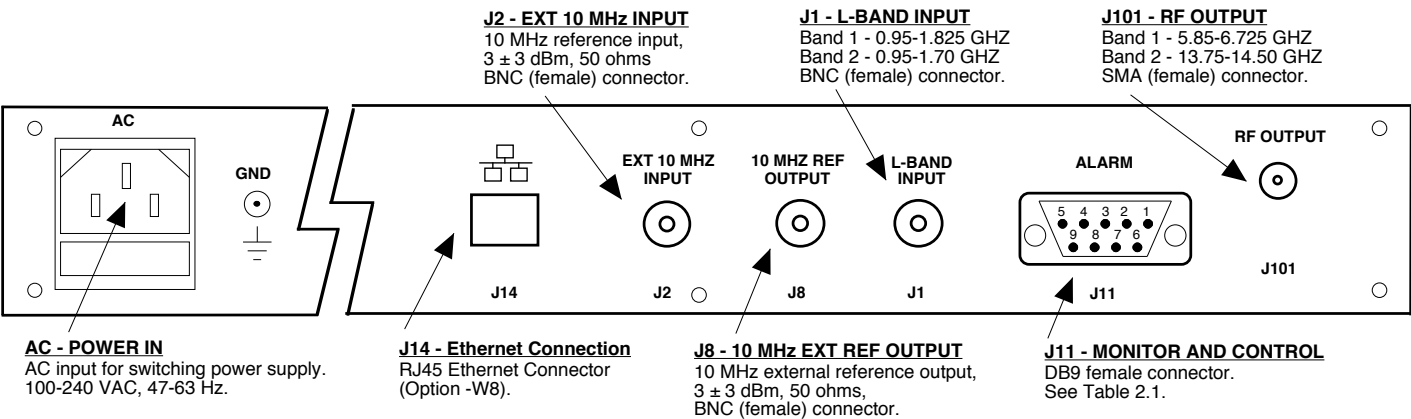

FIGURE 2.1 3115-21-67145 Rear Panel I/O's
Figure 2.1 shows the input and output connectors on the rear panel.
1. Connect a -40 dBm to -20 dBm signal to RF IN, J1 (Figure 2.1).